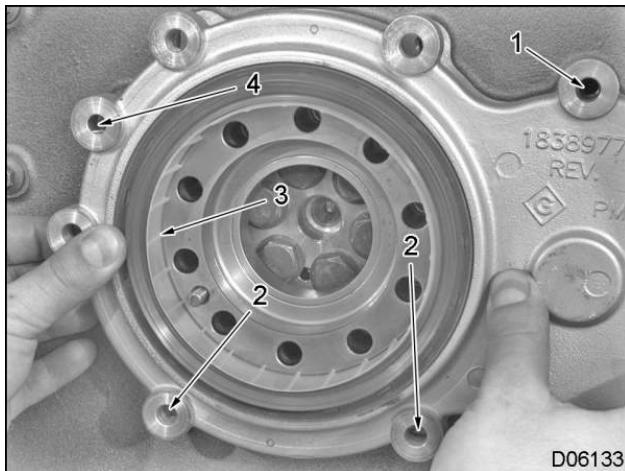

Figure 39 Place Rear Oil Seal Retainer on Secondary Flange Gear
42. Place the retainer and seal assembly over the secondary flange, verify the stiffeners rest on the outer face of the secondary flange gear (Figure 39). Align bolt holes, dowel pin and dowel pin hole and idler gear shaft boss.